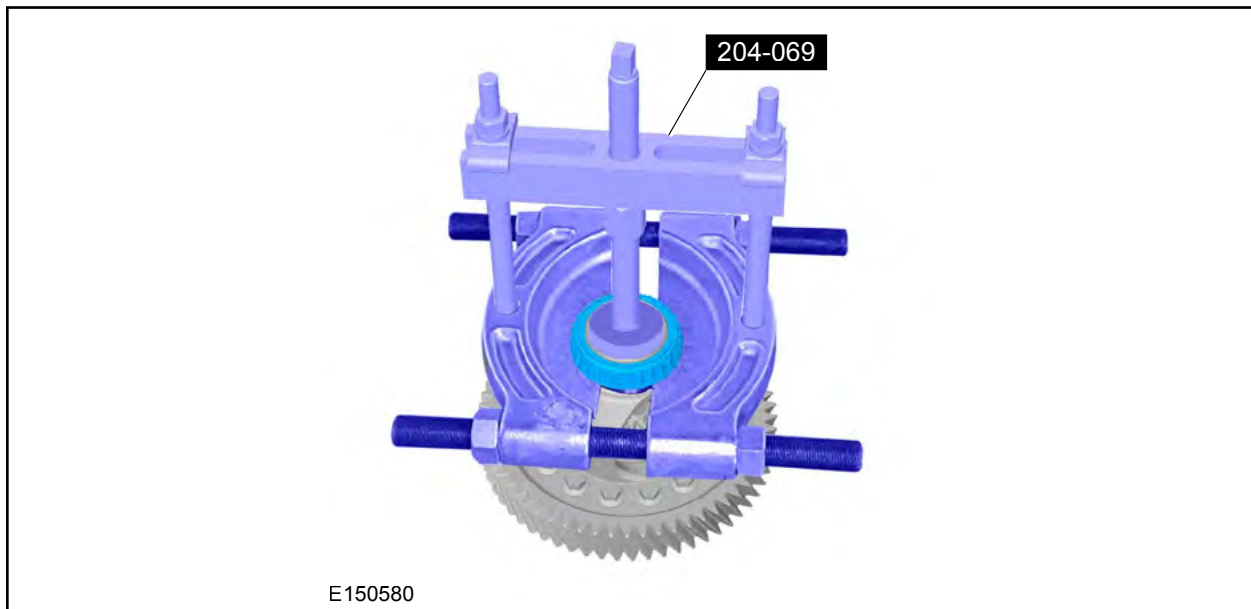

FIGURE 14
11. Remove and discard the upper differential bearing using a Bearing Puller and Step Plate. See Figure 14.